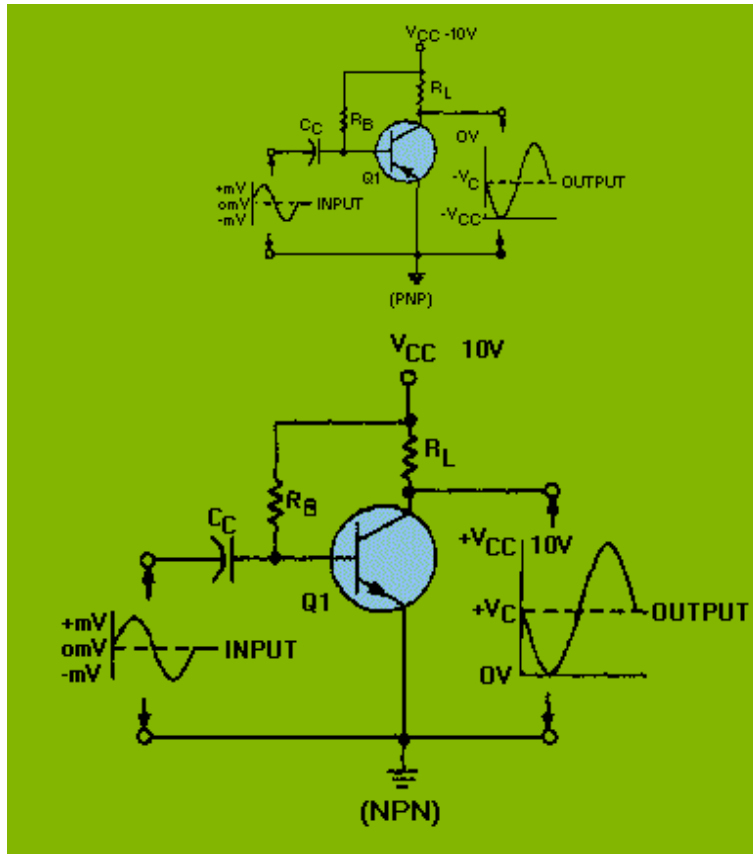
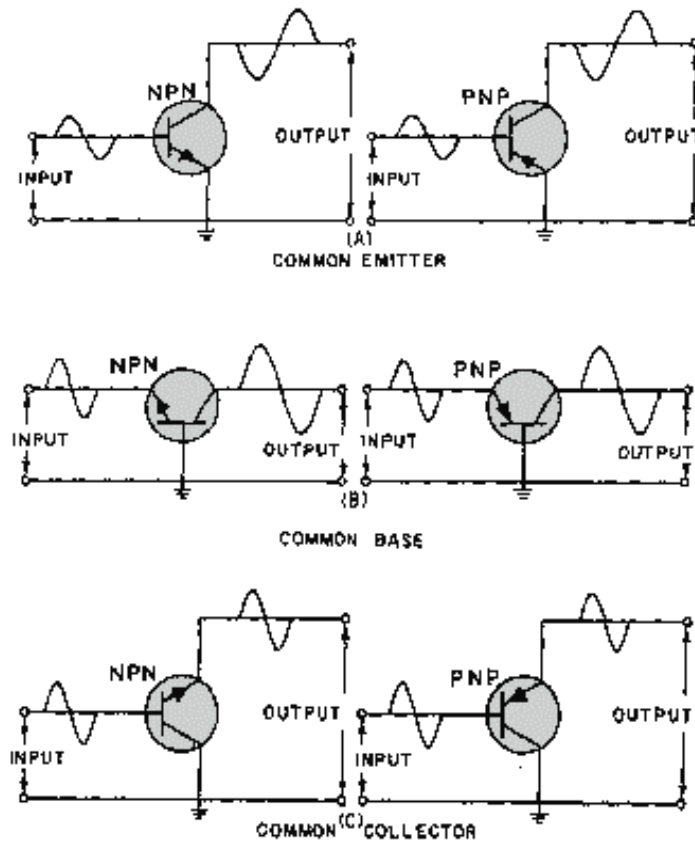

Figure 2-12.—The basic transistor amplifier.
Figure 2-16.—Transistor configurations.
Now take a look at the NPN version of the basic transistor amplifier in figure 2-12 and let's see just how it works.
By inserting one or more resistors in a circuit, different methods of biasing may be achieved and the emitter-base battery eliminated. In addition to eliminating the battery, some of these biasing methods compensate for slight variations in transistor characteristics and changes in transistor conduction resulting from temperature irregularities. Notice in figure 2-12 that the emitter-base battery has been eliminated and the bias resistor R_B has been inserted between the collector and the base. Resistor R_B provides the necessary forward bias for the emitter-base junction. Current flows in the emitter-base bias circuit from ground to the emitter, out the base lead, and through R_B to V_{CC} . Since the current in the base circuit is very small (a few hundred microamperes) and the forward resistance of the transistor is low, only a few tenths of a volt of positive bias will be felt on the base of the transistor. However, this is enough voltage on the base, along with ground on the emitter and the large positive voltage on the collector, to properly bias the transistor.
The first biasing method, called BASE CURRENT BIAS or sometimes FIXED BIAS, was used in figure 2-12. As you recall, it consisted basically of a resistor (R_B) connected between the collector supply voltage and the base. Unfortunately, this simple arrangement is quite thermally unstable. If the temperature of the transistor rises for any reason (due to a rise in ambient temperature or due to current flow through it), collector current will increase. This increase in current also causes the dc operating point, sometimes called the quiescent or static point, to move away from its desired position (level). This reaction to temperature is undesirable because it affects amplifier gain (the number of times of amplification) and could result in distortion, as you will see later in this discussion.
Biasing an amplifier in this manner places the dc operating point between cutoff and saturation and allows collector current to flow during the complete cycle (360 degrees) of the input signal, thus providing an output which is a replica of the input. Figure 2-12 is an example of a class A amplifier. Although the output from this amplifier is 180 degrees out of phase with the input, the output current still flows for the complete duration of the input.
A transistor may be connected in any one of three basic configurations (fig. 2-16): common emitter (CE), common base (CB), and common collector (CC). The term common is used to denote the element that is common to both input and output circuits. Because the common element is often grounded, these configurations are frequently referred to as grounded emitter, grounded base, and grounded collector.
Therefore, by applying these three simple steps to the circuit in figure 2-12, we can conclude that this circuit is more than just a basic transistor amplifier. It is a common-emitter amplifier.
The common-emitter configuration (CE) shown in figure 2-16 view A is the arrangement most frequently used in practical amplifier circuits, since it provides good voltage, current, and power gain. The common emitter also has a somewhat low input resistance (500 ohms-1500 ohms), because the input is applied to the forward-biased junction, and a moderately high output resistance (30 kilohms-50 kilohms or more), because the output is taken off the reverse-biased junction. Since the input signal is applied to the base-emitter circuit and the output is taken from the collector-emitter circuit, the emitter is the element common to both input and output.
Since you have already covered what you now know to be a common-emitter amplifier (fig. 2-12), let's take a few minutes and review its operation, using the PNP common-emitter configuration shown in figure 2-16 view A.
The common-base configuration (CB) shown in figure 2-16, view B is mainly used for impedance matching, since it has a low input resistance (30 ohms-160 ohms) and a high output resistance (250 kilohms-550 kilohms). However, two factors limit its usefulness in some circuit applications: (1) its low input resistance and (2) its current gain of less than 1. Since the CB configuration will give voltage amplification, there are some additional applications, which require both a low-input resistance and voltage amplification, that could use a circuit configuration of this type; for example, some microphone amplifiers.
Unlike the common-emitter circuit, the input and output signals in the common-base circuit are in phase. To illustrate this point, assume the input to the PNP version of the common-base circuit in figure 2-16 view B is positive. The signal adds to the forward bias, since it is applied to the emitter, causing the collector current to increase. This increase in I_C results in a greater voltage drop across the load resistor R_L (not shown), thus lowering the collector voltage V_C . The collector voltage, in becoming less negative, is swinging in a positive direction, and is therefore in phase with the incoming positive signal.
The common-collector configuration (CC) shown in figure 2-16 view C is used mostly for impedance matching. It is also used as a current driver, because of its substantial current gain. It is particularly useful in switching circuitry, since it has the ability to pass signals in either direction (bilateral operation).